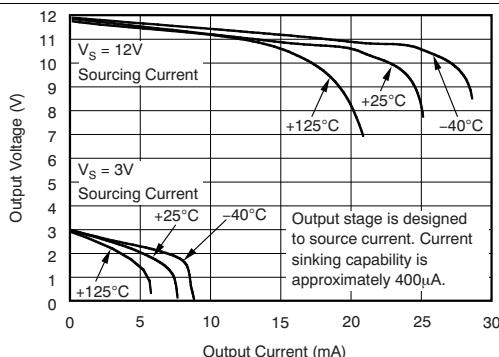

图 8. Positive Output Voltage Swing vs Output Current
(2) Total output error includes effects of gain error and V_{OS} .
(3) Linearity is best fit to a straight line.
(4) For details on this region of operation, see *Accuracy Variations* section in *Device Functional Modes*.
(5) See Figure 8.
(6) Specified by design.